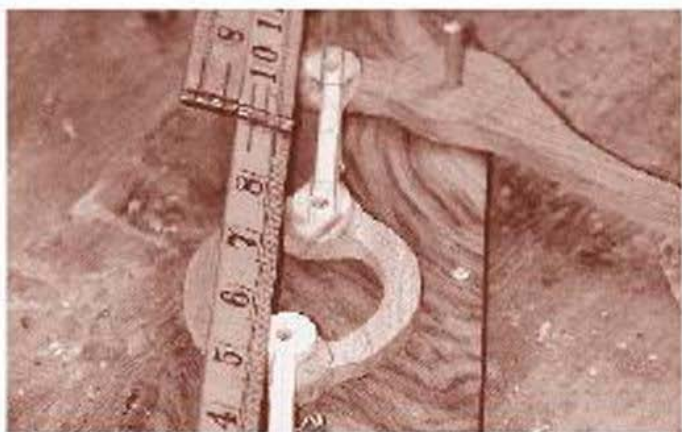

FIGURE 24-6
- 3** When you have fitted the two rods, the sum total length between the pivot point on the top end of the top rod and the pivot point on the bottom end of the bottom rod should be such that the piston fits on both the up and down strokes (Figure 24-6).